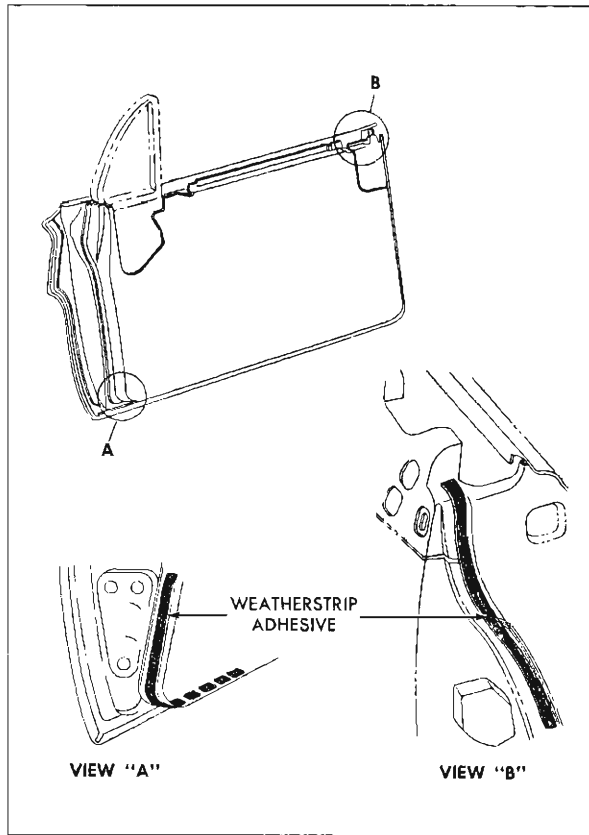

Fig. 3-14 Weatherstrip Cementing
2. Carefully break cement bonds securing weatherstrip to door. A flat-bladed tool, such as a putty knife, will prove helpful in breaking cement bond (See Fig. 3-14).
2. Clean off old cement from door to insure a clean cementing surface. Apply a bead of an approved weatherstrip adhesive to lock pillar facing of door. Begin adhesive application at belt line and continue down door for approximately seven to nine inches (See Fig. 3-14).